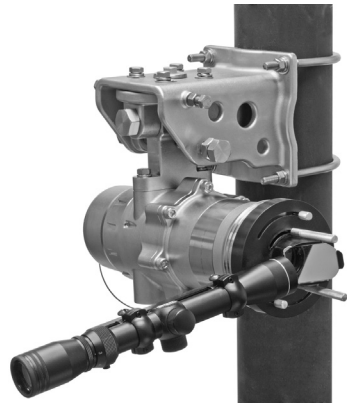

Figure 26— LS2000 with Alignment Tool Installed
6. Attach the Alignment Tool onto the receiver module by inserting the captive thumbscrews into the threaded holes on the faceplate. See Figure 26. Ensure that the alignment tool is properly attached, that the eyepiece is accessible, and that the thumbscrews are completely tightened.